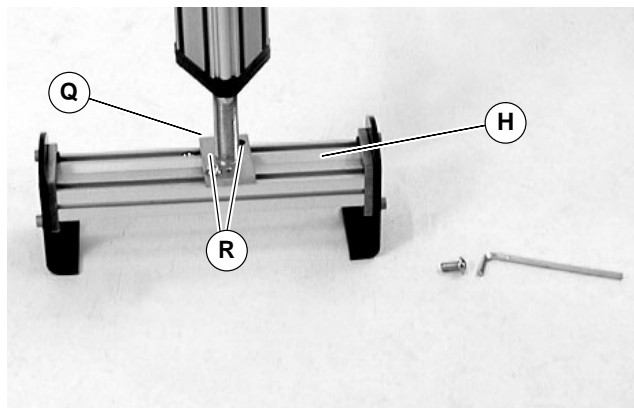

Figure 8
9. Align the screw holes (R of Figure 8) of the stand top screw end plate (Q) with the hex nuts in the t-slots in the crossmember tube (H).
11. To center the conveyor mounting bracket (H of Figure 8), position the “Attach Here” sticker (T of Figure 9) with the end plate (S) of the stand top screw assembly.